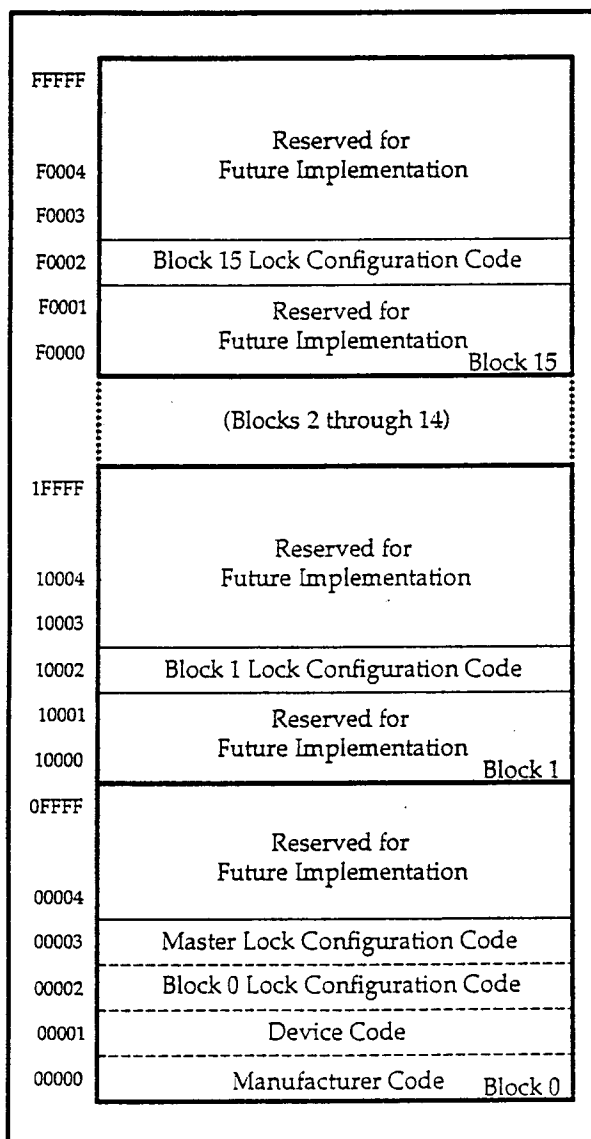

Figure 3. Device Identifier Code Memory Map
The read identifier codes operation outputs the manufacturer code, device code, block lock configuration codes for each block, and the master lock configuration code (see Figure 3). Using the manufacturer and device codes, the system CPU can automatically match the device with its proper algorithms. The block lock and master lock configuration codes identify locked and unlocked blocks and master lock-bit setting.
IA=Identifier Code Address: see Figure 3.
1. X selects the specific block lock configuration code to be read. See Figure 3 for the device identifier code memory map.